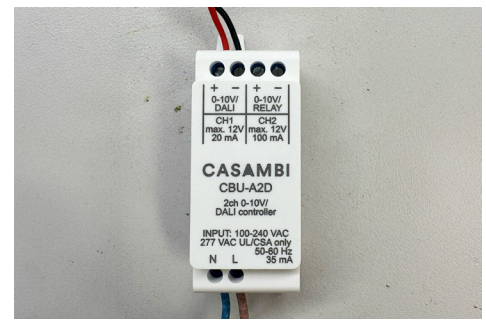

FIG. 45
1. Verify your dimmer matches the CASAMBI CBU-A2D shown (Fig. 45) before proceeding with installation. For the CBU-A2D, connect the dimming wires specifically to CH1 on the upper right section of the LT-84A to ensure proper function.